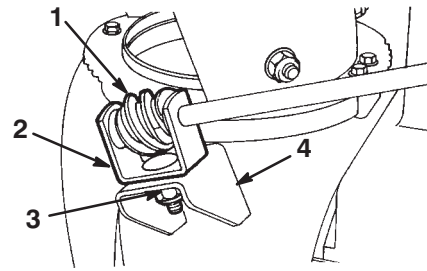

Figure 10
3. Loosely mount the worm gear and the bracket to the mounting flange with a bolt, a pyramidal washer, and a locknut as shown in Figure 10.
4. Slide the worm gear into the teeth of the chute retaining ring and tighten the locknut (Fig. 10).
2. Apply No. 2 general purpose grease to the worm gear (Fig. 10).